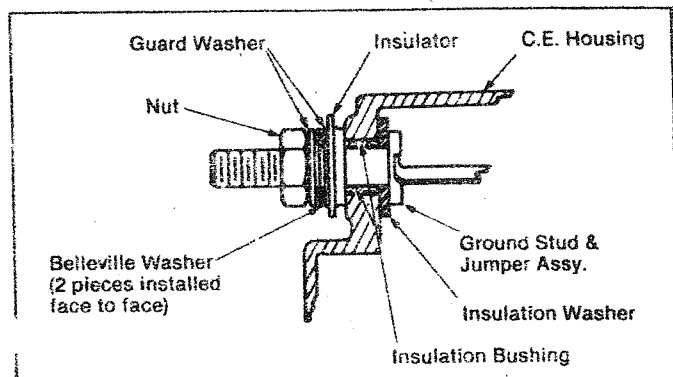

Figure 28
14. Install insulation washer, guard washers, belleville washers, and nut on ground stud as shown in figure 28. Torque to 23-27 lbs. ft.